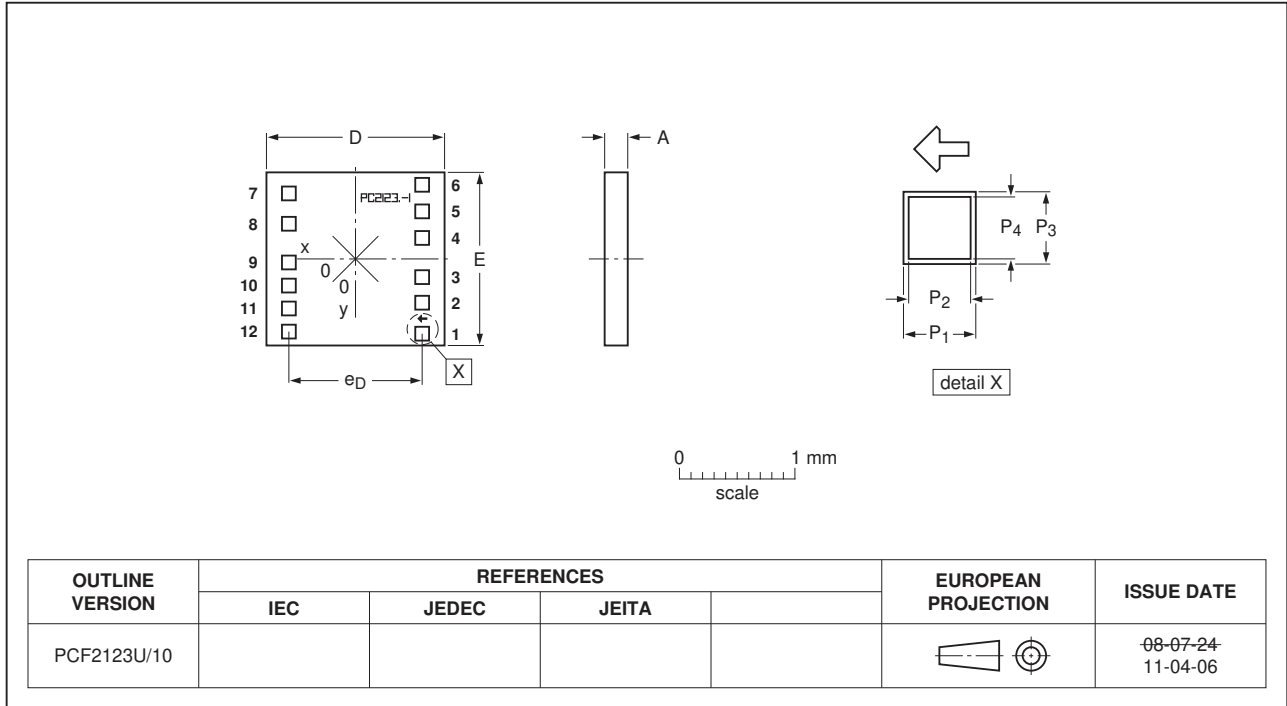
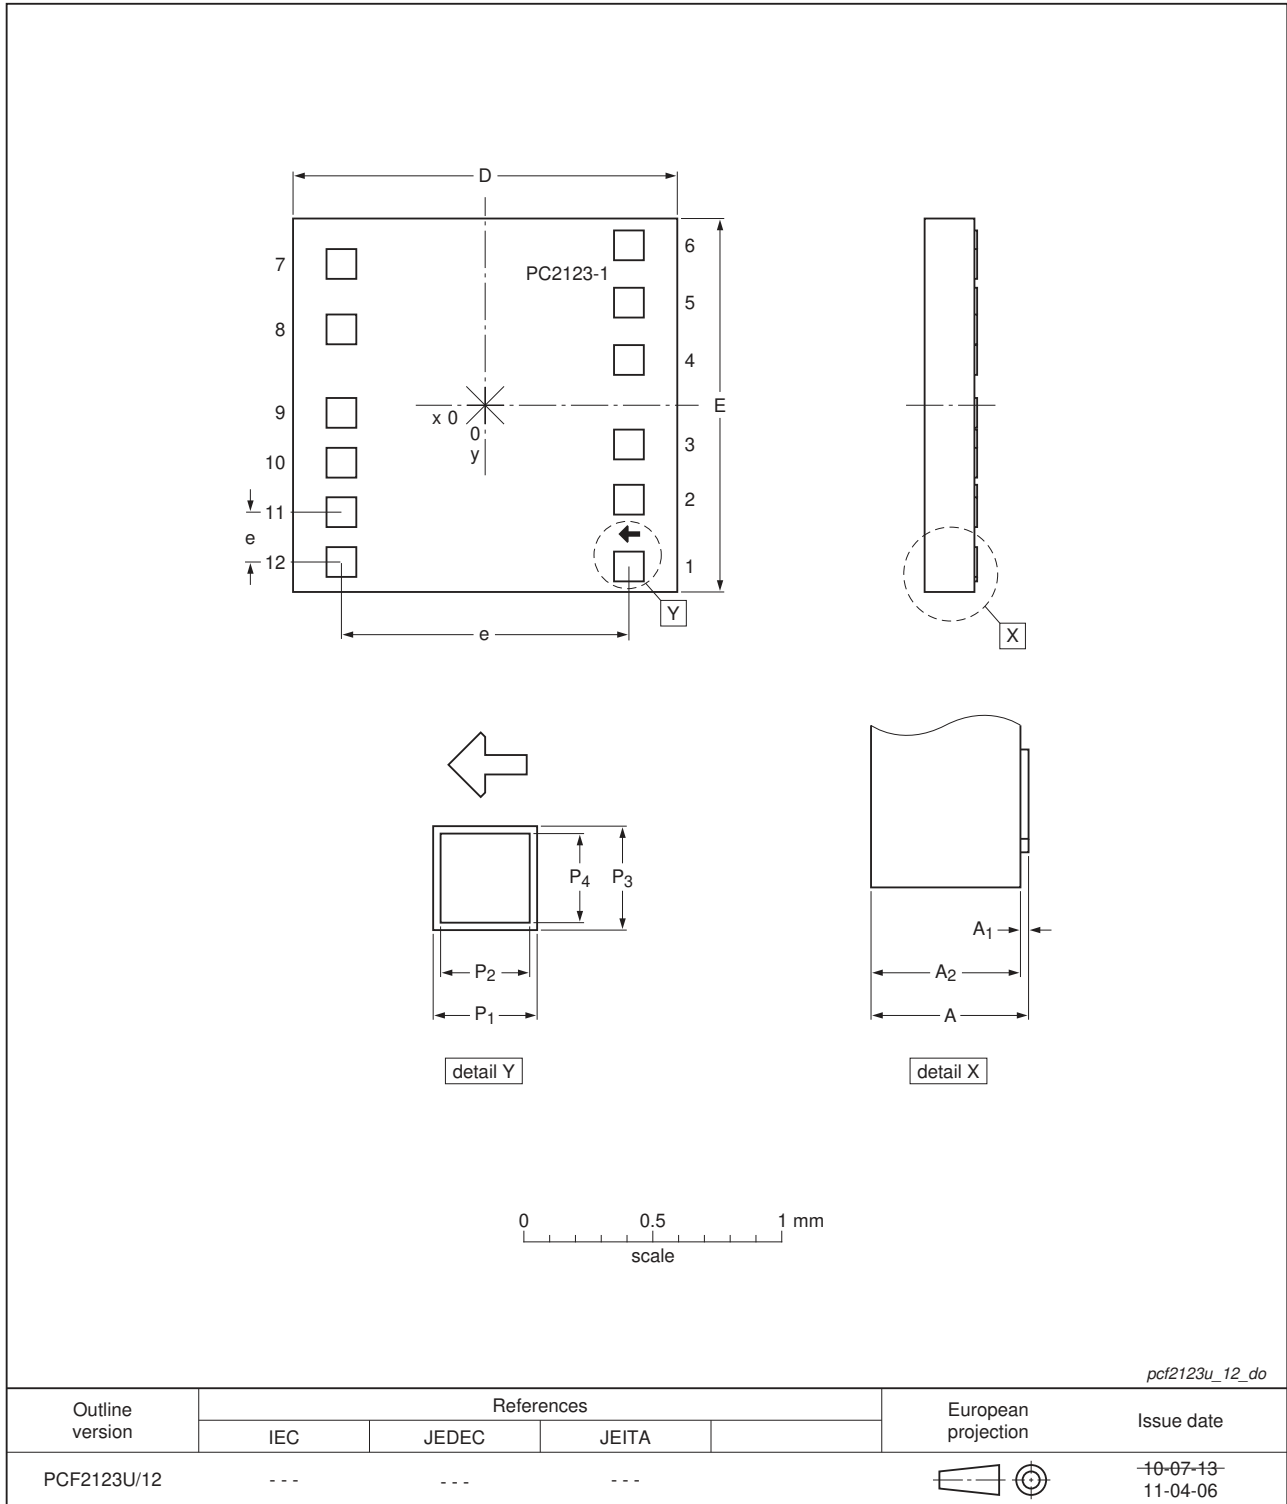
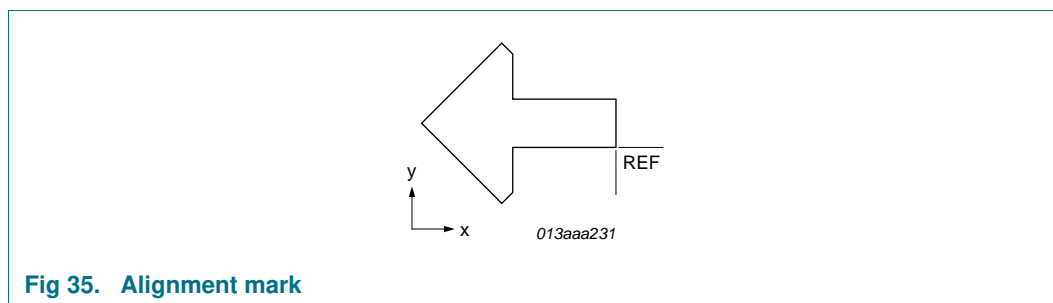

Fig 33. Bare die outline PCF2123U/10 of PCF2123U/5GA/1 and PCF2123U/10AA/1 (for dimensions see Table 47)
Fig 34. Bare die outline PCF2123U/12 of PCF2123U/12AA/1 and PCF2123U/12HA/1 (for dimensions see Table 48)
Fig 35. Alignment mark
All x/y coordinates represent the position of the center of each pad with respect to the center (x/y = 0) of the chip; see Figure 33 and Figure 34.
- [1] The x/y coordinates of the alignment mark location represent the position of the REF point (see Figure 35) with respect to the center (x/y = 0) of the chip; see Figure 33 and Figure 34.
- [2] The x/y values of the dimensions represent the extensions of the alignment mark in direction of the coordinate axis (see Figure 35).